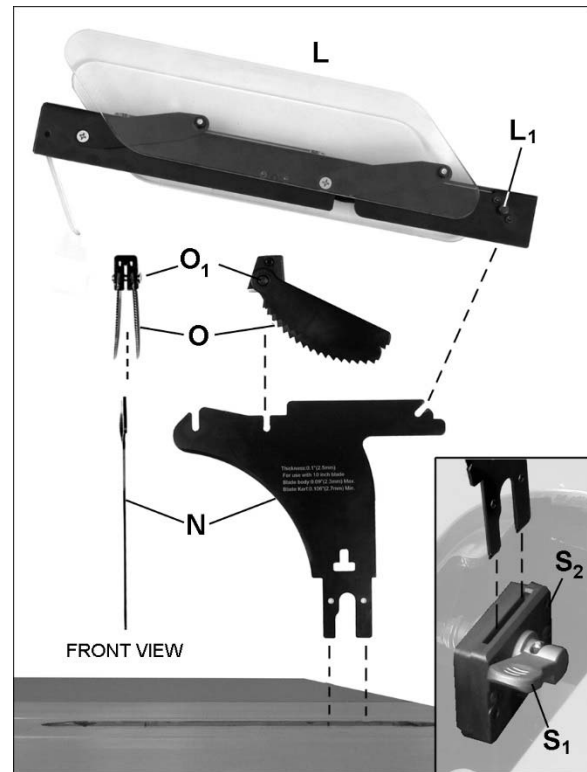

Figure 6-10: installing guard assembly
See Figure 6-10.
2. Position anti-kickback pawl assembly (O, Figure 6-10) so that angled side of pawl block faces toward front of saw, as shown.
3. Lower pawl assembly onto center notch of riving knife, with pawls straddling knife. Push and hold button on pawl block (O1, Figure 6-10), and push pawl block down until it securely engages in notch.